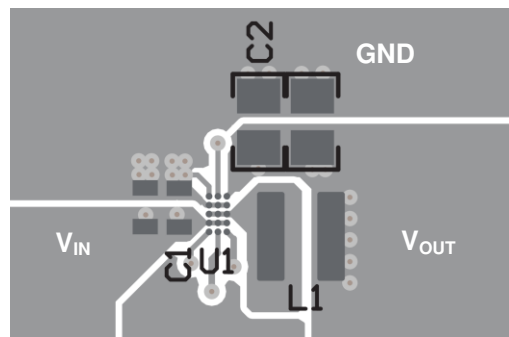

FIGURE 11-1. Layout Example
- Refer to Figure 11-1 for an example of component placement, routing, and thermal design.